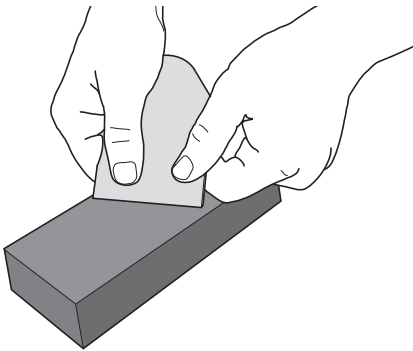
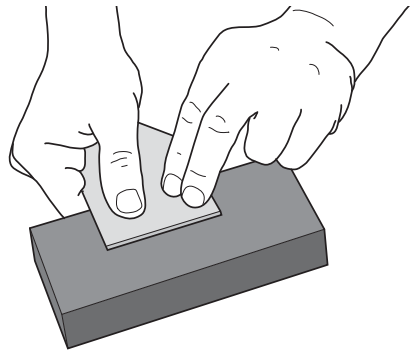

Figure 3: Honing.
Figure 4: Lapping.
Step 2 – Honing: Start with an 800x or 1000x stone to remove the marks from filing. Either an oil stone or water stone is suitable. Hold the blade as shown in **Figure 3** with the bevel flat against the stone. Stroke it back and forth, covering the whole stone. Check the bevel often to evaluate your progress. Continue until all file marks are gone. As shown in **Figure 4**, lap the face of the blade near the cutting edge to achieve the same finish as on the bevel. A sharp edge can only be achieved by creating two intersecting surfaces honed to the same degree. Using the same technique, transfer to a 4000x water stone or hard Arkansas oil stone to finish honing. The Veritas Power Sharpener or a bench-top belt sander with 320x (40μ) followed by 1200x (9μ) abrasive will provide the same results a bit faster.